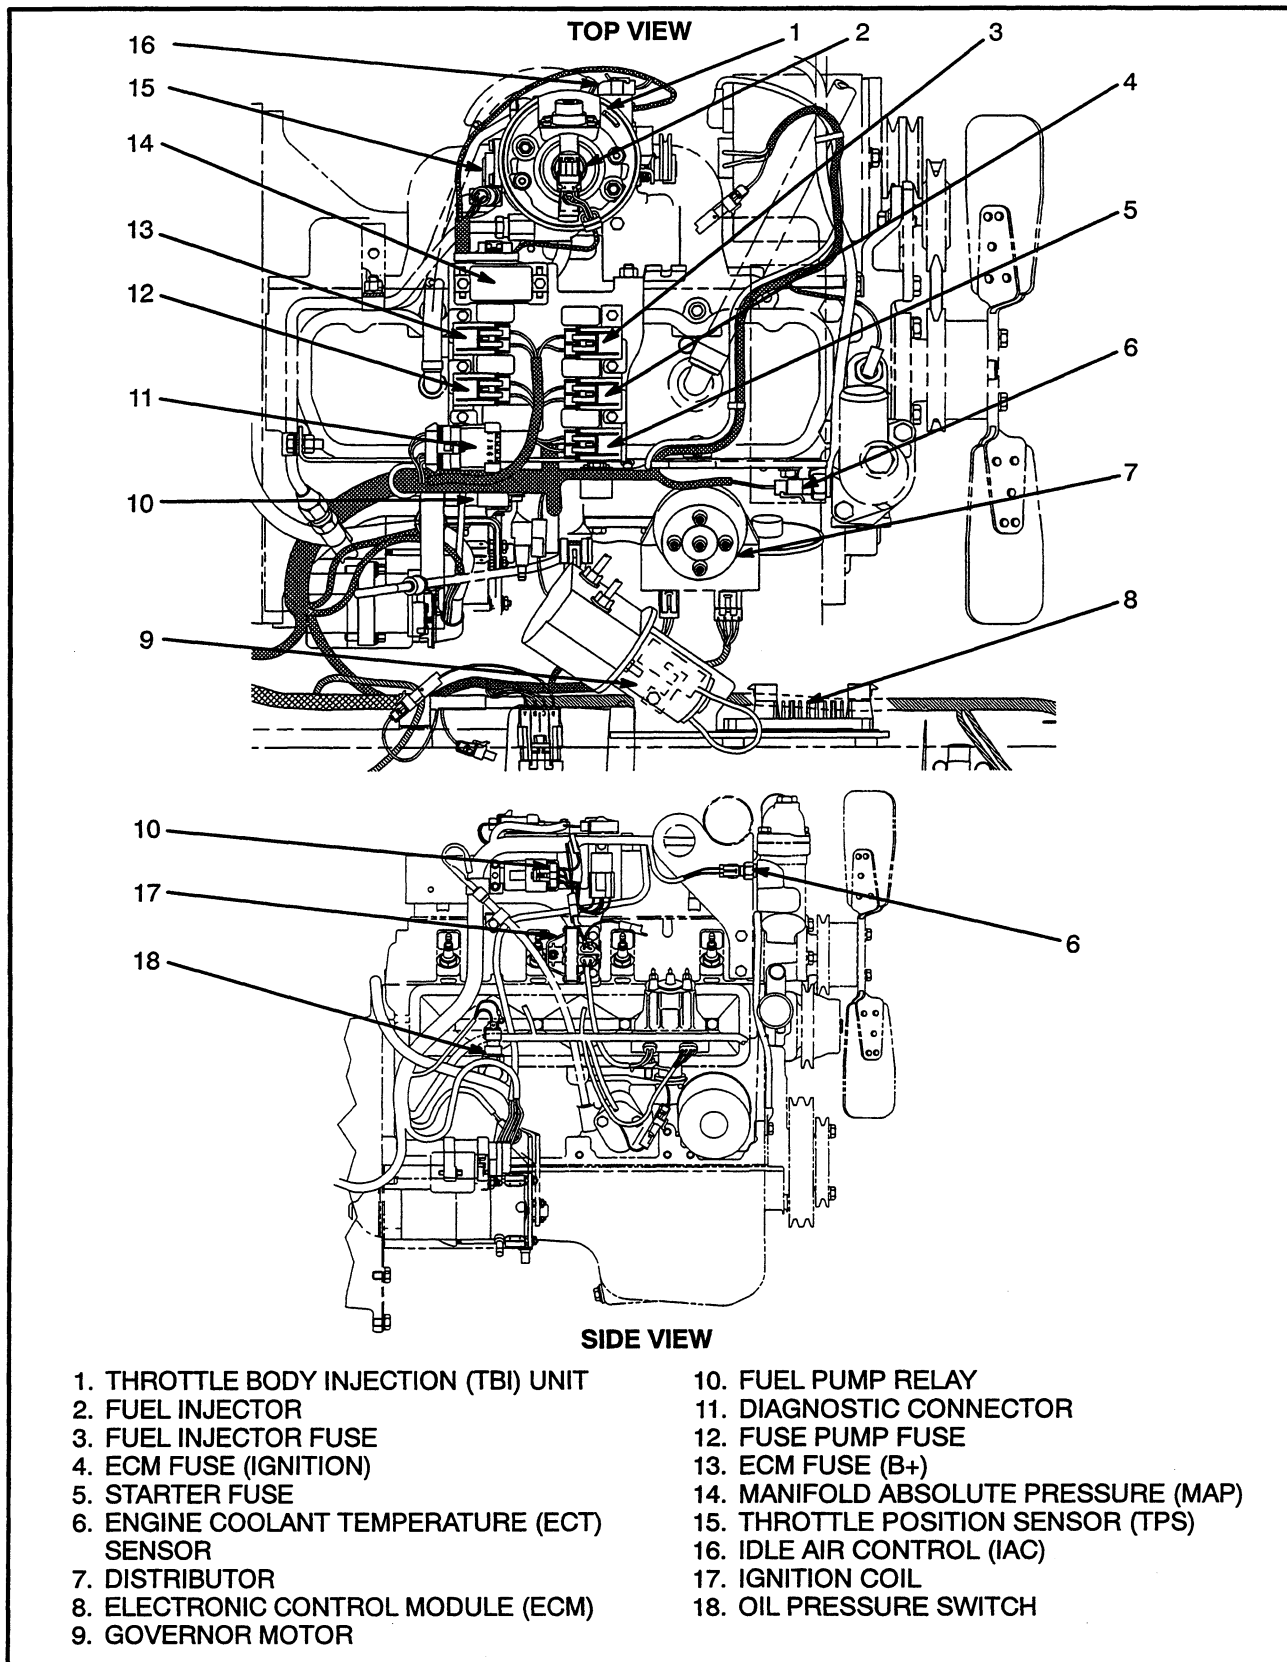
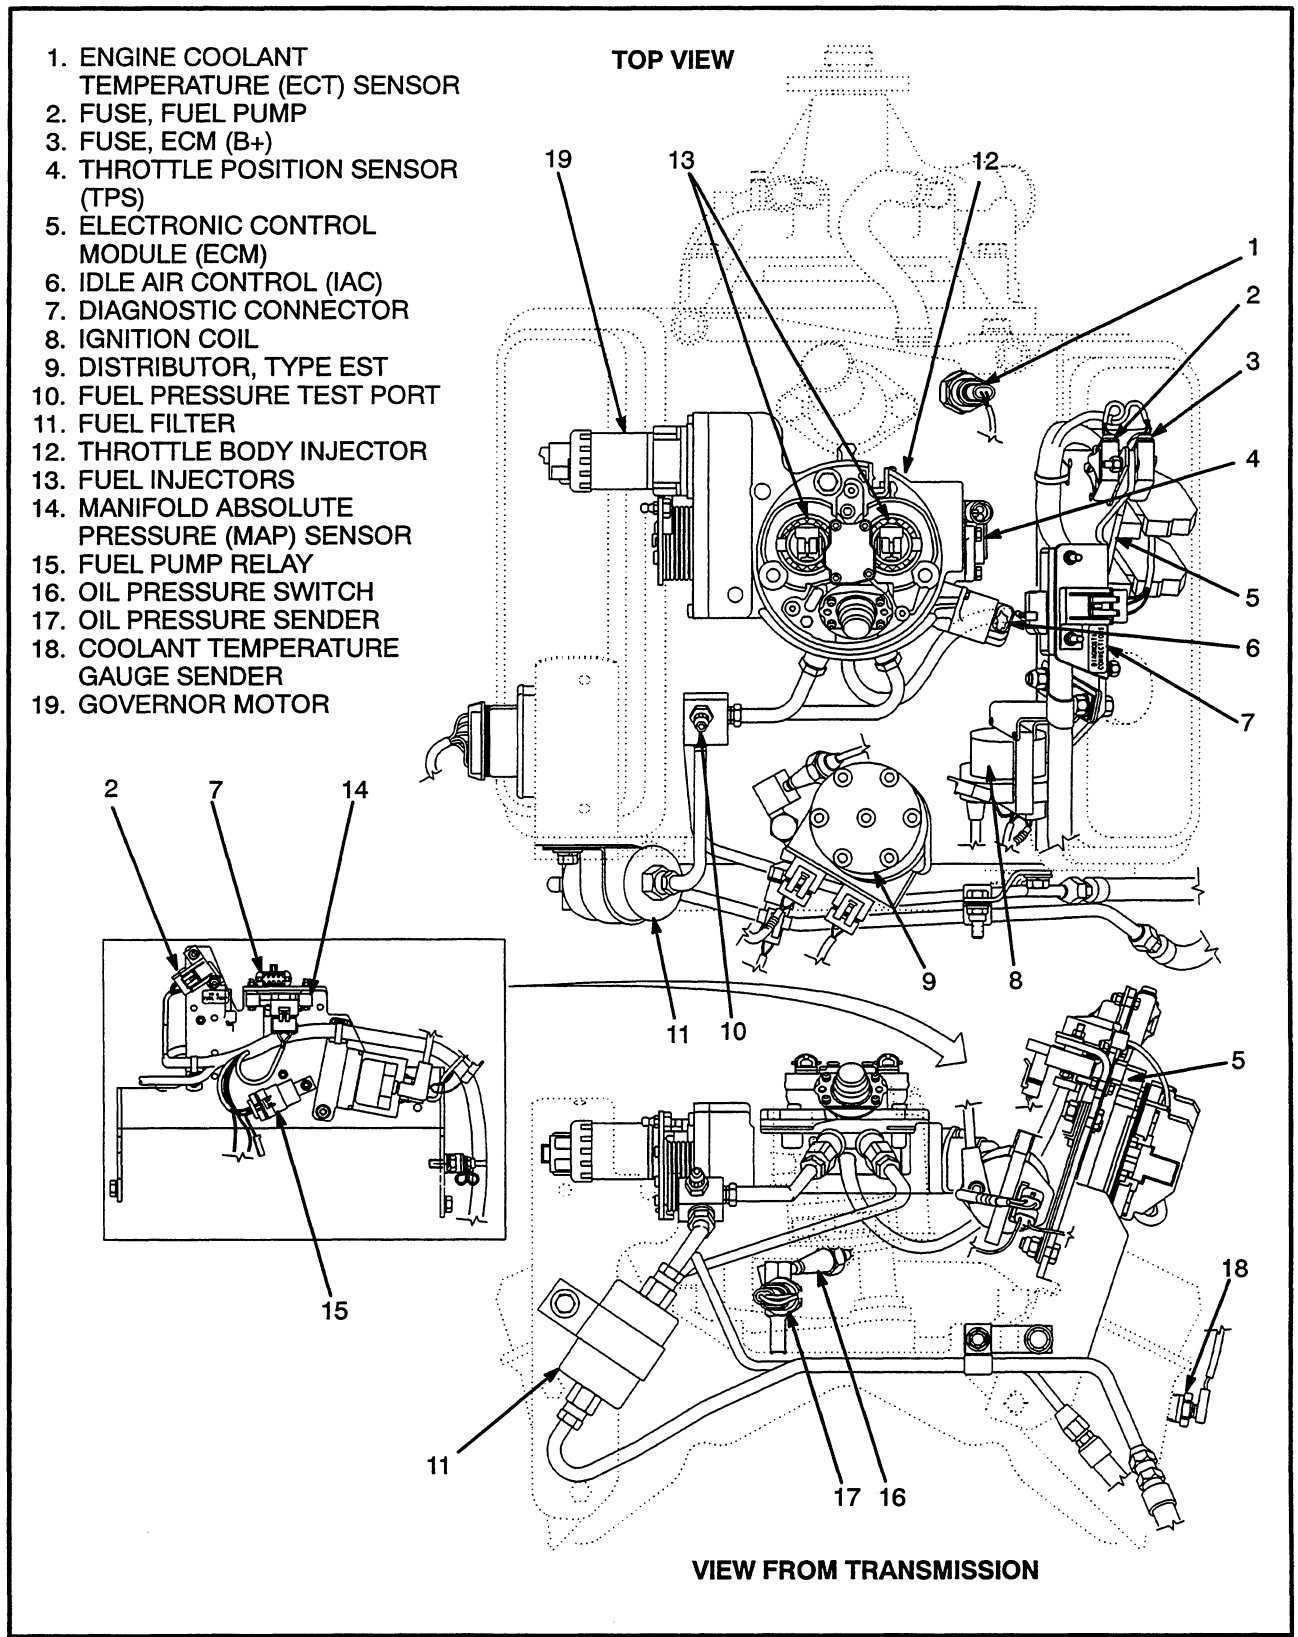

FIGURE 2. ELECTRONIC ENGINE CONTROL COMPONENTS ARRANGEMENT (GM 3.0L ENGINE)
FIGURE 3. ELECTRONIC ENGINE CONTROL COMPONENTS ARRANGEMENT (GM 4.3L ENGINE)
The diagnostic connector is connected through a wiring harness to the ECM. The diagnostic connector is an important link for troubleshooting the operation of the ECM and the electronic engine control system. The diagnostic connector is found in the engine compartment. (See Item 11, FIGURE 2. and item 7, FIGURE 3.) The use of the diagnostic connector is described in the **ELECTRONIC ENGINE CONTROL, TROUBLESHOOTING AND REPAIRS** section for these engines.